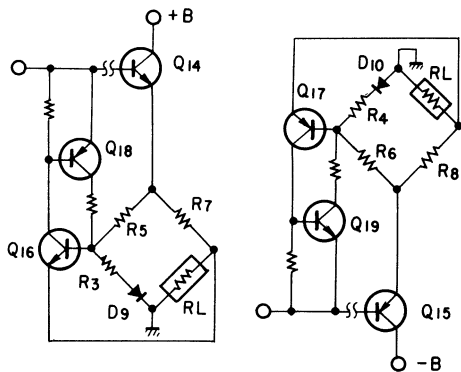

Fig. 7 Power limiter circuit
The circuit (Fig. 7), constitutes a Wheatstone bridge, one arm of which is the load (RL), which is arranged so that Q16 (Q17) is biased by the potential difference between the opposite corners of the bridge. As the value of RL decreases, Q16 (Q17) starts to conduct, thus holding down the drive voltage and controlling the magnitude of the current flowing into the power transistors. Q18 (Q19) is link connected to Q16 (Q17) which provides sharp clipping characteristics.